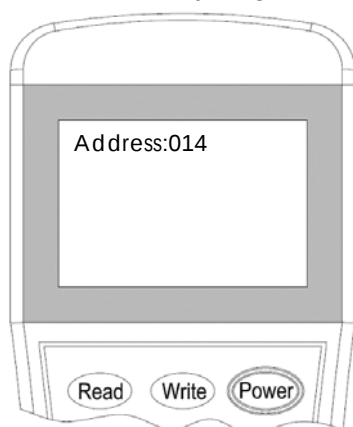

Fig.14 Tone setting
2. Switch-on the programmer, then press button **“4”** to set the desired tone, as shown in figure 14. Write the number of the corresponding tone and click the button **“write”**. The word **“Success”** or **“Fail”** on the screen means that the success or not of the encoding mode setting, as shown in figure 15 and figure 16.